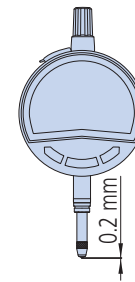

Fig. 2
5. When setting the zero point, retract the spindle at least 0.2 mm from the rest position. (Fig. 2)